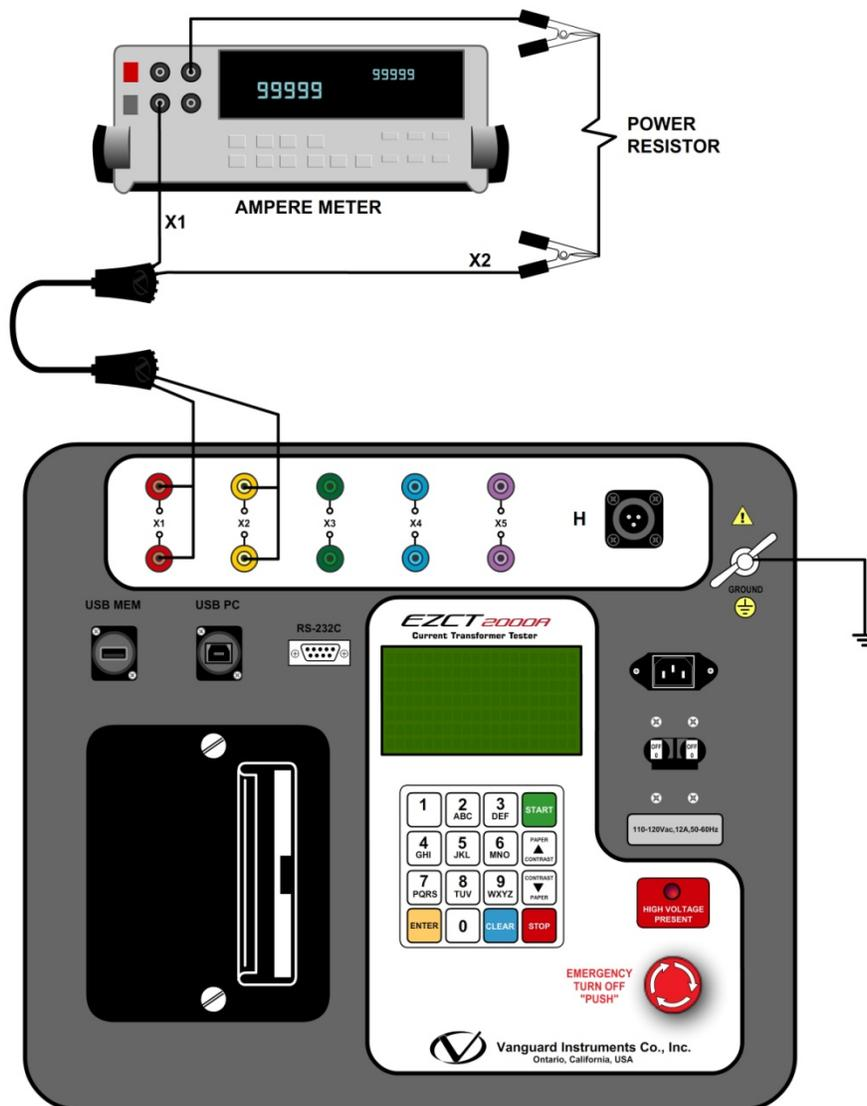

Figure 18. EZCT-2000A  $I_x$  Verification Test Connections
- Connect the X cables to a power resistor and an RMS ampere meter as shown in Figure 18.